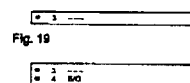

Fig. 20
- 6 Press OK. (See Fig. 20.) When you select programmes using the PROGR +/- buttons, the programme position will be skipped.